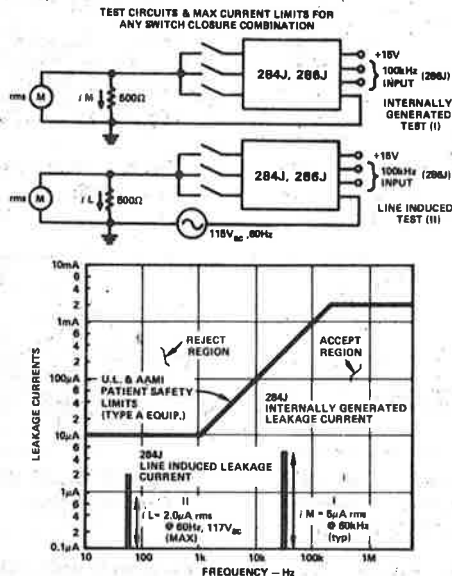

Figure 10. Model 284J Leakage Current Performance from Line Induced and Internally Generated (Modulator) Operating Conditions
**Leakage Current Limits:** The low coupling capacitance between inputs and output yields a ground leakage current of less than 2.0 $\mu$ A rms (284J) and 2.5 $\mu$ A rms (286J) at 115V ac, 60Hz (or 0.02 $\mu$ A/V ac). As shown in Figures 10 and 11, the transformer coupled modulator signal, through stray coupling, also creates an internally generated leakage current. Line frequency leakage current levels are unaffected by the power on or off condition of models 284J, 286J.